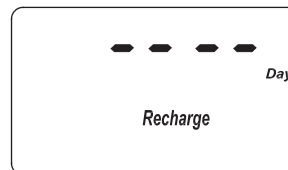

FIG. 29
1. Press and hold the PROGRAM button until the screen in Figure 26 is displayed. Once in this display, press the PROGRAM button four times and the display in Figure 29 is shown.